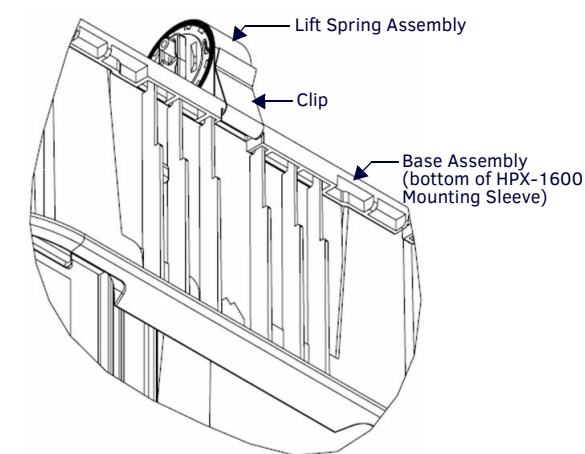

FIG. 5 LIFT SPRING ASSEMBLY CLIPPED TO MAIN SLEEVE
- Ensure the lift spring assembly is oriented properly (FIG. 5).